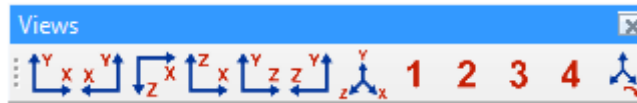

Figure 37. Views Toolbar
- The **Views** toolbar will appear (Figure 37), and the **Apply Front View** button can be clicked to view the model in the X Y plane.